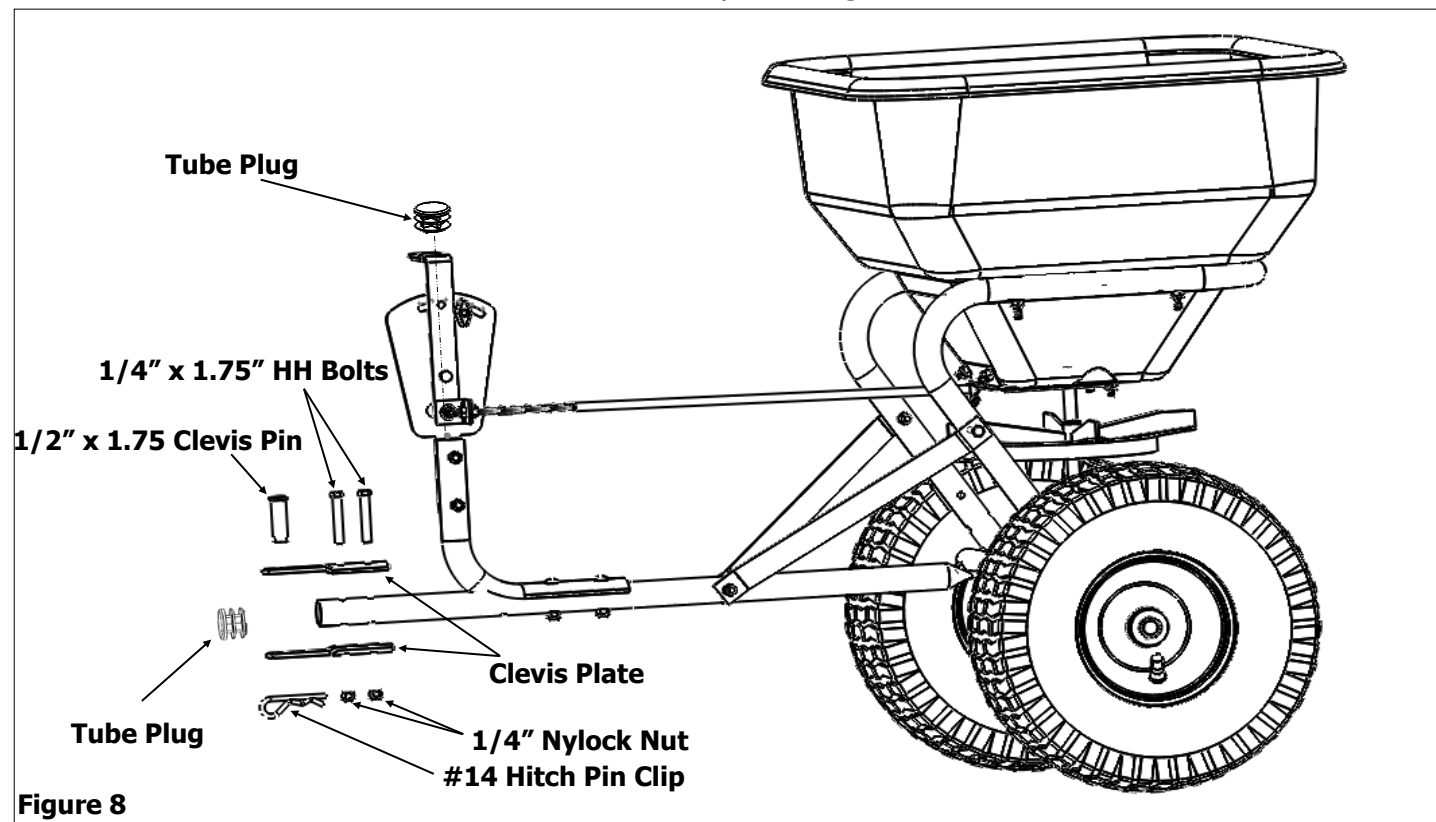

Figure 8
9. Gently tap Tube Plugs into top of T-handle and end of Tow Bar. Attach the two Clevis Plates to the top and bottom of the Tow Bar, using 1/4" x 1-3/4" Hex Head Bolts and 1/4" Nylock Nuts. Insert the 1/2" x 1-3/4" Clevis Pin through holes in Clevis Plates. Secure this with a # 14 Hitch Pin Clip. See Figure 8.